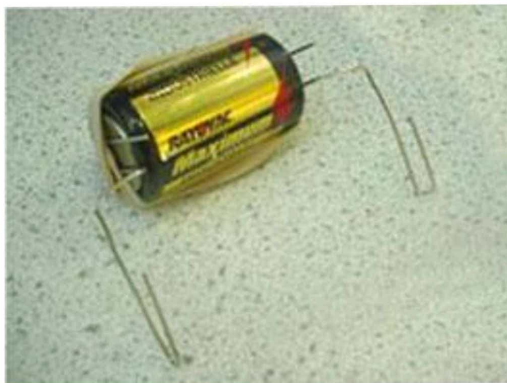

Figure 4. Use a rubber band to secure the paperclips to the battery.
5. Use a rubber band to secure the large loop ends of each paper clip to the terminals of the D-cell battery. The battery, rubber band and paper clips device should look like Figure 4.